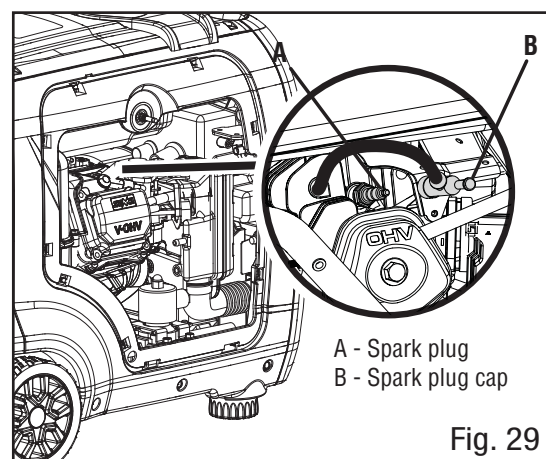

Fig. 29
2. Remove the spark plug cap (Fig. 29).